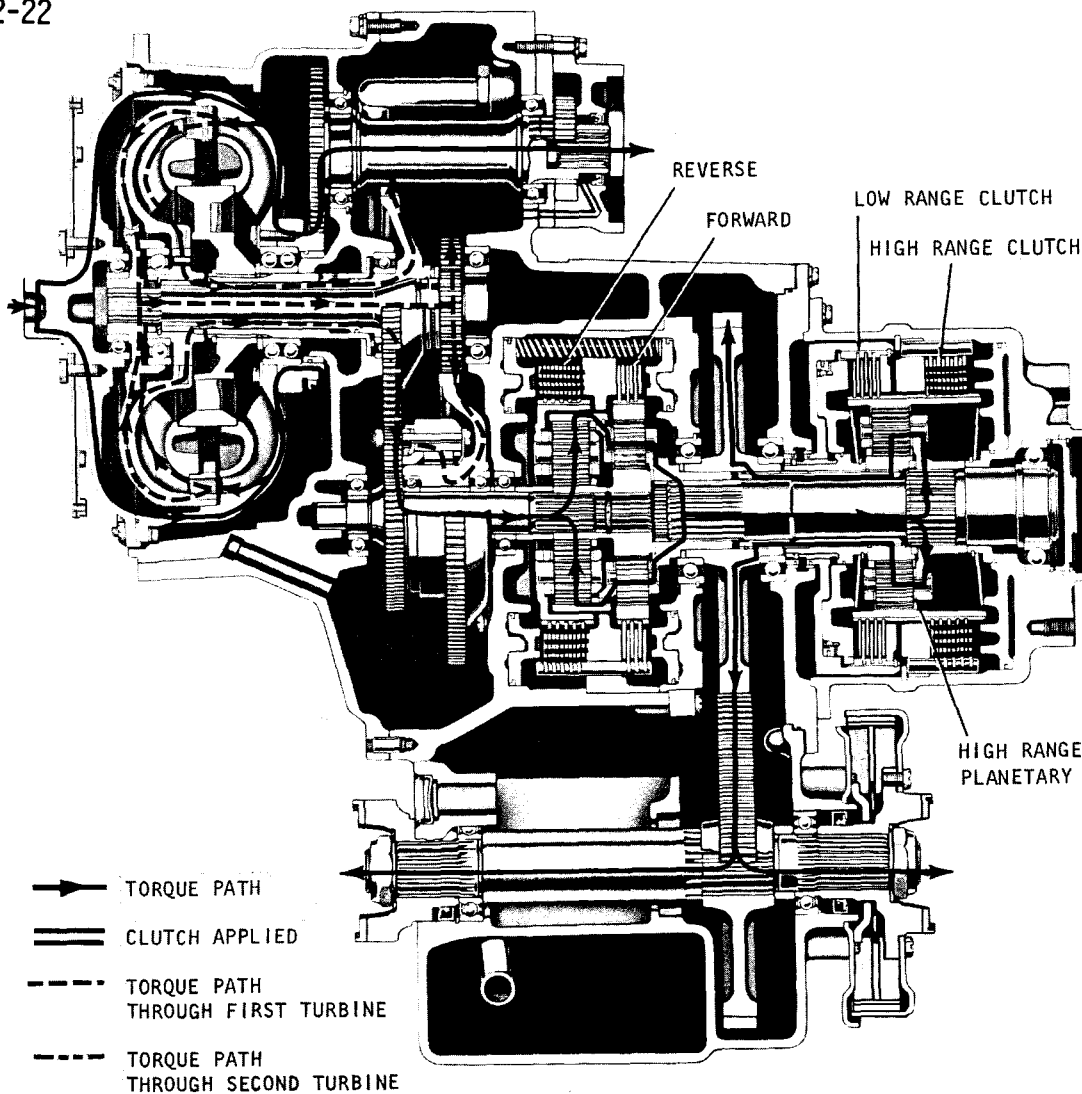

Fig. 2-12. TRT 2421-1 reverse 2 torque path
e. Reverse 2 (fig. 2-12)
(1) Refer to paragraph 2-21d, above, for explanation of power flow from the engine to the transmission gearing.
(2) When the manual selector valve is shifted from reverse 1 to reverse 2, the low-range clutch releases, the high-range clutch engages, and the reverse clutch remains engaged. The high-range clutch, engaged, holds the high-range planetary ring gear stationary.
(3) The reverse planetary sun gear rotates the carrier pinions in the stationary carrier. They, in turn, rotate the reverse ring gear, driving it in a direction opposite